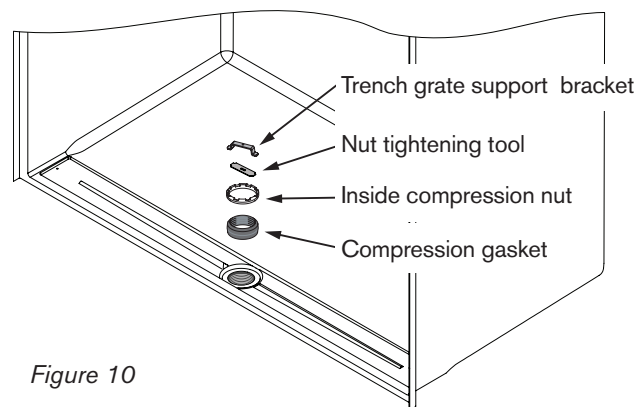

Figure 10
- 15 FINISH DRAIN INSTALLATION:** Slide inside compression gasket into drain body and slip over pipe. **Make sure beveled end of inside compression gasket is facing up and flush with pipe surface.** (Figure 10)